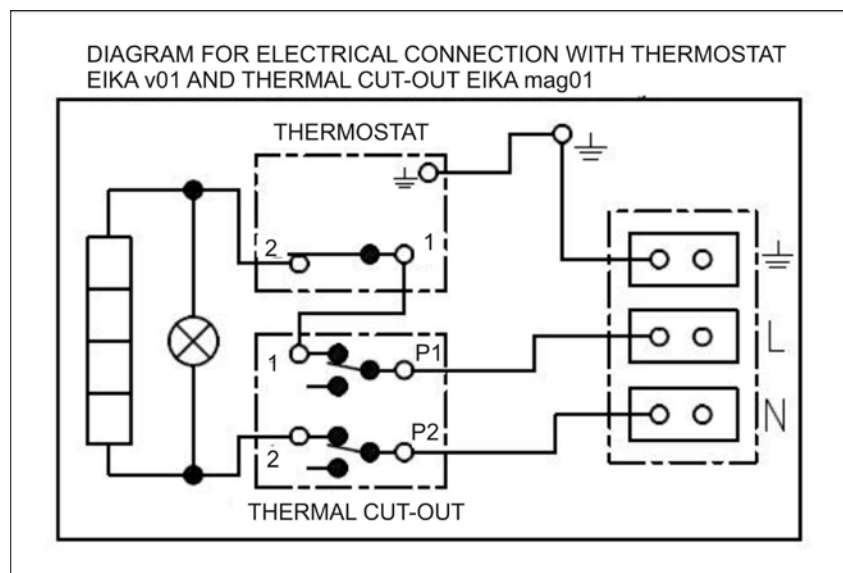
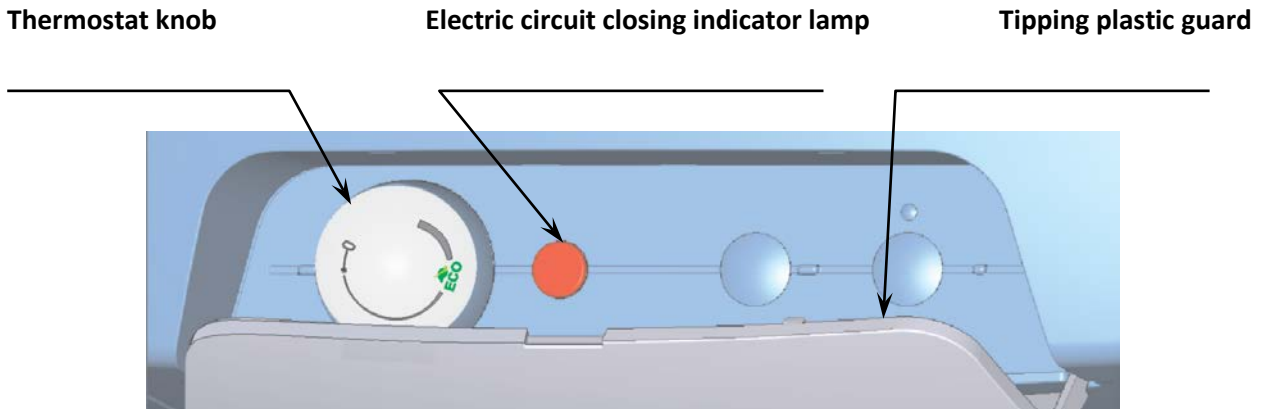

Figure 4
Figure 6
Connection of heaters to plumbing fixtures is illustrated on (figure 4, figure 6). For potential disconnection of the heater, the service water inlets and outlets must be provided with screw coupling Js 3/4". The safety valve is mounted on the cold water inlet identified with a blue ring.
- The electric wiring scheme is attached to the water heater on the side of the electric installation guard (figure 4).